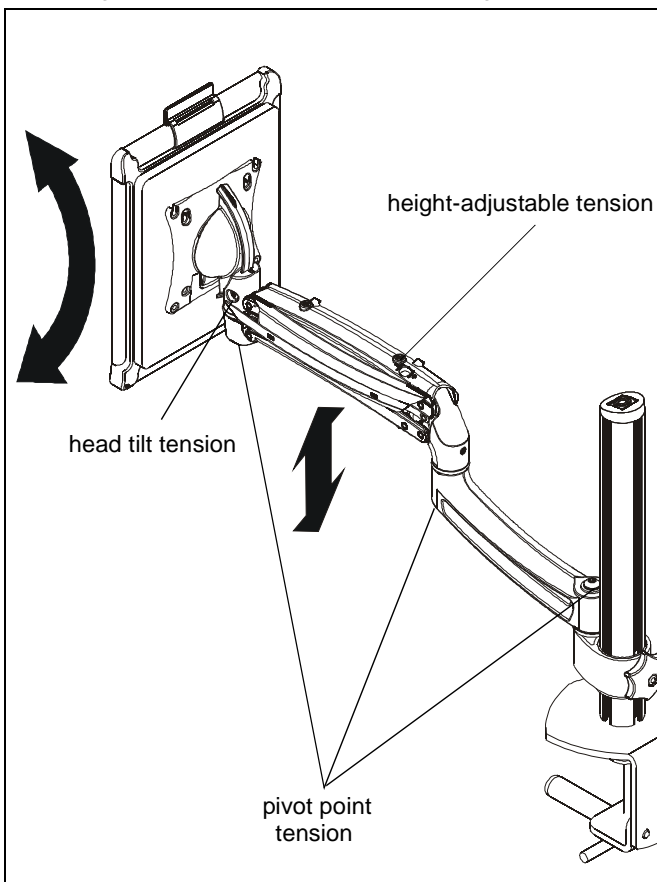

Figure 13
1. Adjust head tilt to desired tilt position. (See Figure 13)
2. Adjust head tilt tension screw to change the adjustment tension. (See Figure 13)
1. Adjust height to desired level. (See Figure 13)
3. Use 1/8" hex key (K) to adjust height-adjustable tension screw to change adjustment tension. (See Figure 13)
1. Adjust pivot position as desired. (See Figure 13)
2. Use 3/16" hex key (J) to adjust pivot point tension screws to change pivot adjustment tension. (See Figure 13)